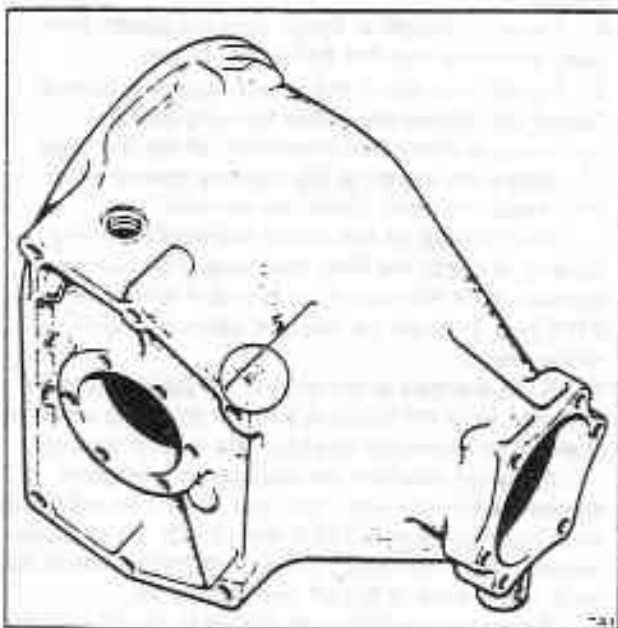

Fig. J1-9 Stamped dimension on final drive casing
4. Note the dimension stamped on the final drive casing (see fig. J1-9) then place the casing in an oven having a temperature of 110°C (230°F) for approximately thirty minutes.